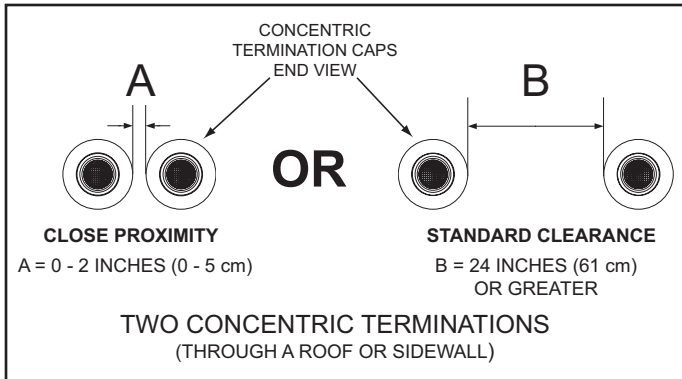
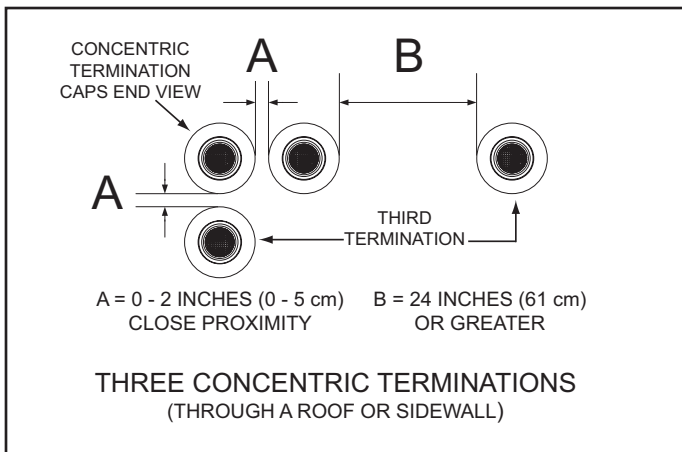
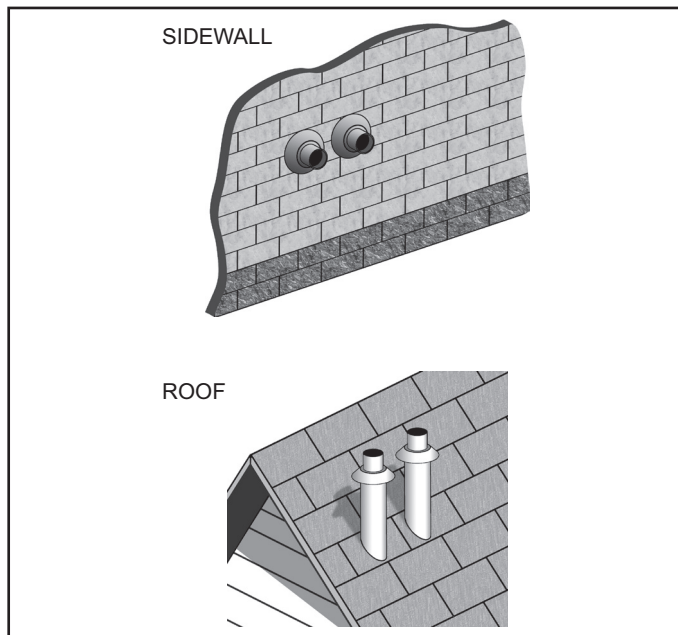

Figure 28
Figure 29
Figure 33
When installing multiple concentric terminations through a roof or through a sidewall the clearances shown in Figure 28 must be maintained.
1. The clearance between multiple termination caps must be 0 inches (touching) to a maximum of 2 inches (5 cm), dimension A - Figure 28, when installing concentric terminations in close proximity. See Figure 28 through 32.
2. The clearance between multiple termination caps must be increased to a minimum of 24 inches (61 cm), dimension B - Figure 28, when installation in close proximity (above) is not possible. This is the standard clearance.
1. When installing three concentric terminations through a roof or through a sidewall the third termination may be installed in close proximity as indicated by dimension A in Figure 29.
2. If close proximity installation of the third termination is not possible the third termination may be installed as indicated by dimension B in Figure 29.
Two concentric terminations may be installed in close proximity as shown in Figure 33 or with standard clearances when this arrangement is not possible. See Figure 28 on page 31 for detailed information on clearances. See Figure 29 on page 31 when installing three concentric terminations.